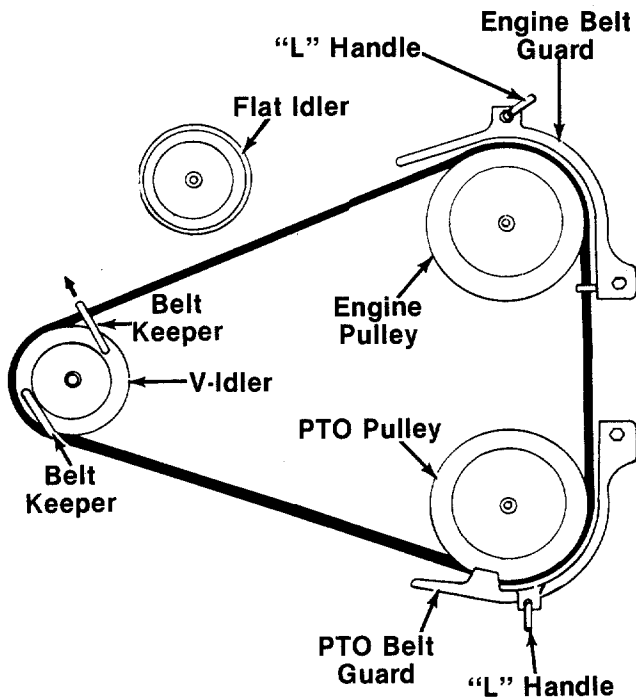

FIGURE 12.
1. Unscrew the "L" handle on the PTO belt guard and pivot the PTO belt guard away from the PTO pulley. See figure 12.
3. Push the belt keepers on the V-idler the direction of the arrows shown in figure 12 and rotate either direction.
Place the engine level. Fill the oil sump to the FULL mark on the dipstick. Do not overfill. Pour slowly. See figure 12.